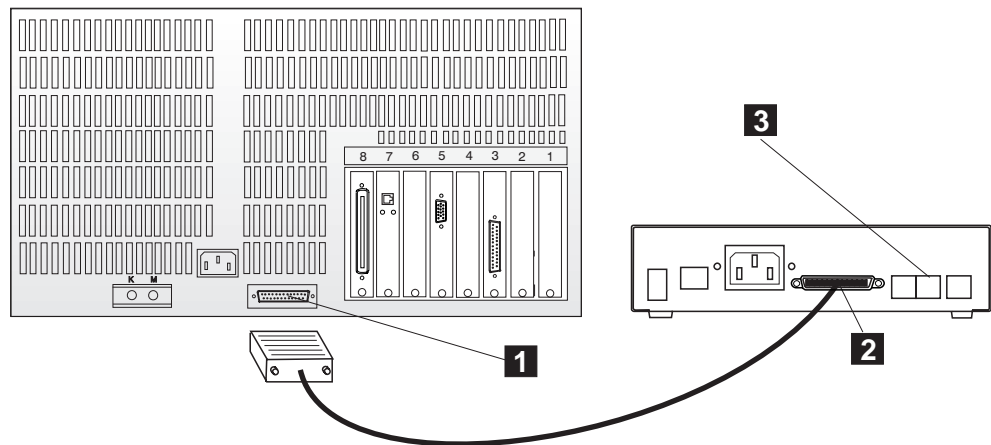

Figure 1-69. Connecting the Service Processor (3172) from COM1 to the 7858
- **3172**, refer to Figure 1-69